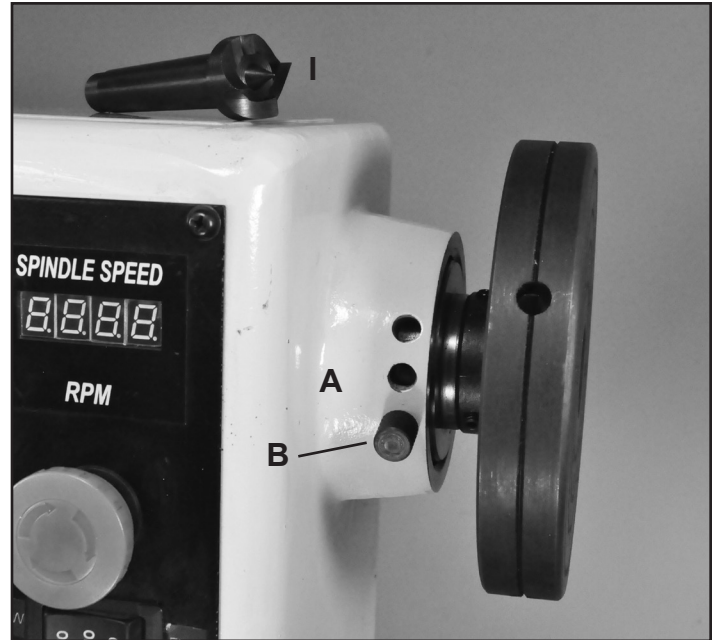

FIG. 7
10. **HEADSTOCK INDEXING HOLES:** (FIG. 7, A) There are three positioning holes located in the headstock casting, behind the spindle. Insert the Indexing Pin (B) (#B10) into one of these holes, and then make sure that it locates into one of the indexing holes that are in the spindle. There are 12 holes in the spindle, each 30° apart. The three holes in the headstock casting that accept the indexing pin are 20° apart. The combination of these holes will allow you to mark your workpiece for evenly spaced features up to 36 positions. See page 14.